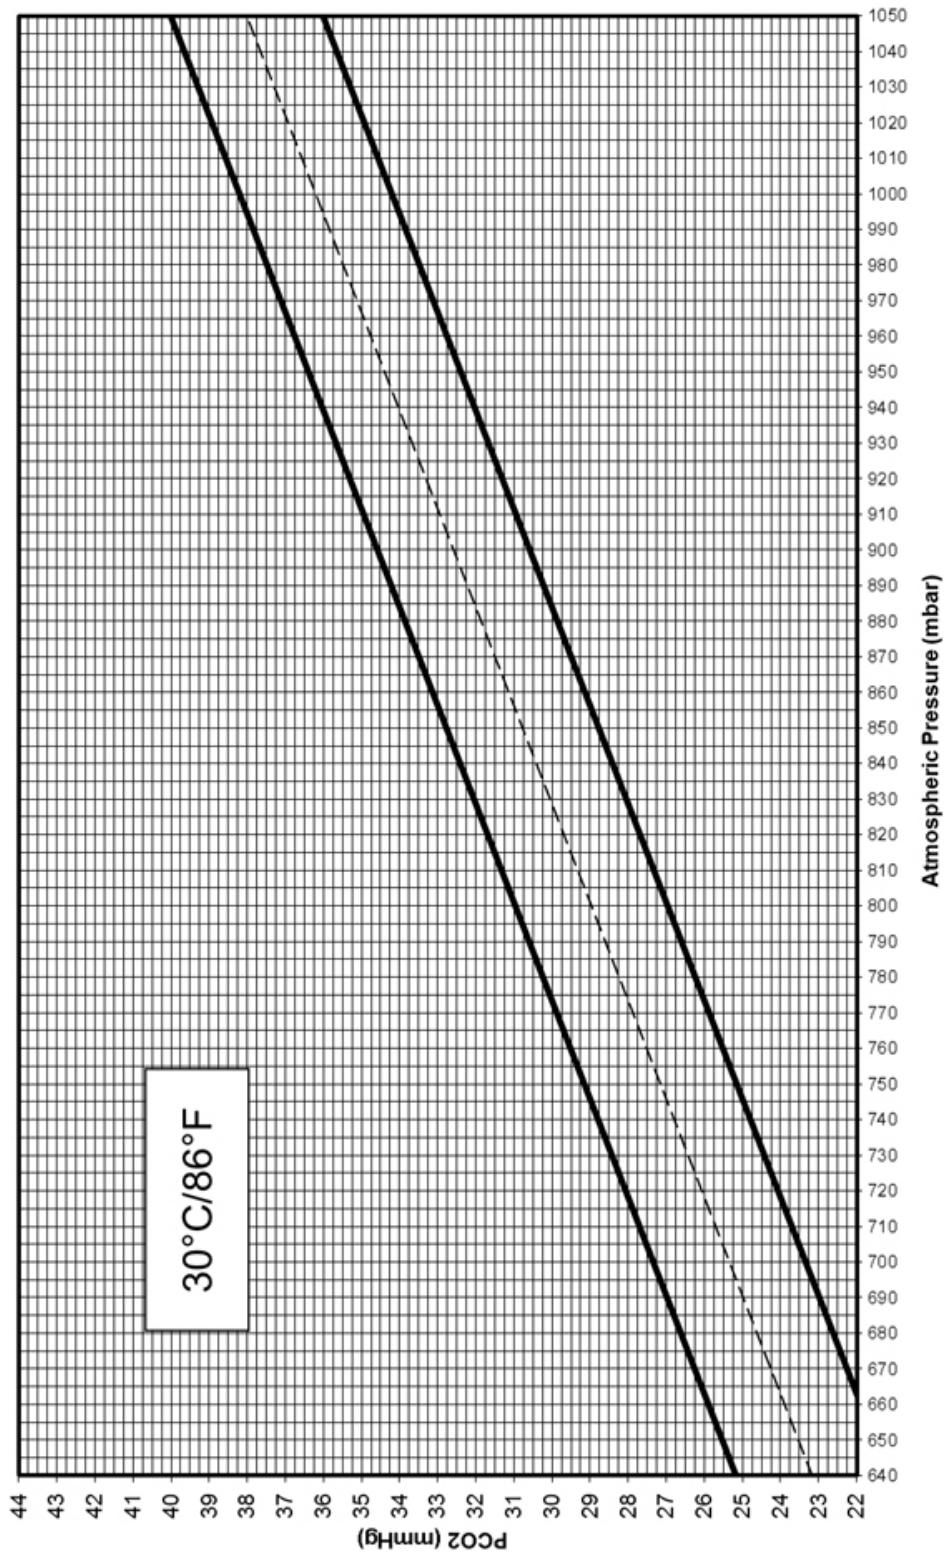

Fig. 192 Acceptable Range for PCO₂ at Atmospheric Pressure (27.5 to 32.5 °C)
- Ambient temperature 30 °C (27.5 to 32.5 °C): Fig 192